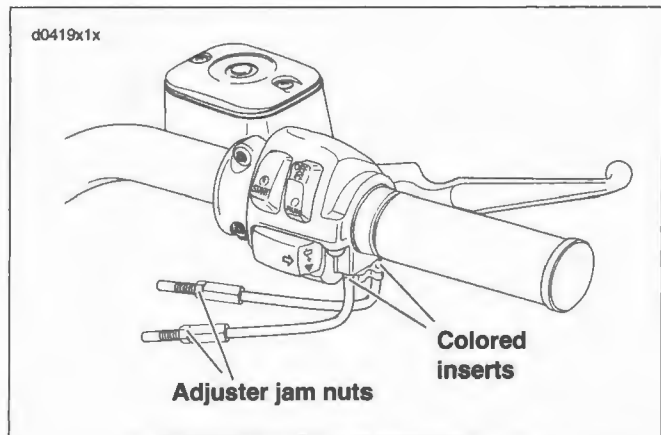

Figure 2-112. Handlebar Throttle Control
1. See Figure 2-112. Loosen cable adjuster jam nuts. Screw throttle cable adjuster until it is as short as possible. Remove the two screws that hold the handlebar housing together to separate the upper and lower housings.